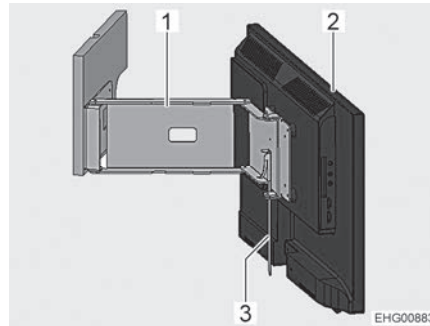

Fig. 70 Flat screen on jointed arm
- Flip the lever (Fig. 70,3). The jointed arm (Fig. 70,1) is unlocked.
- Swivel the flat screen (Fig. 70,2) into the desired position.